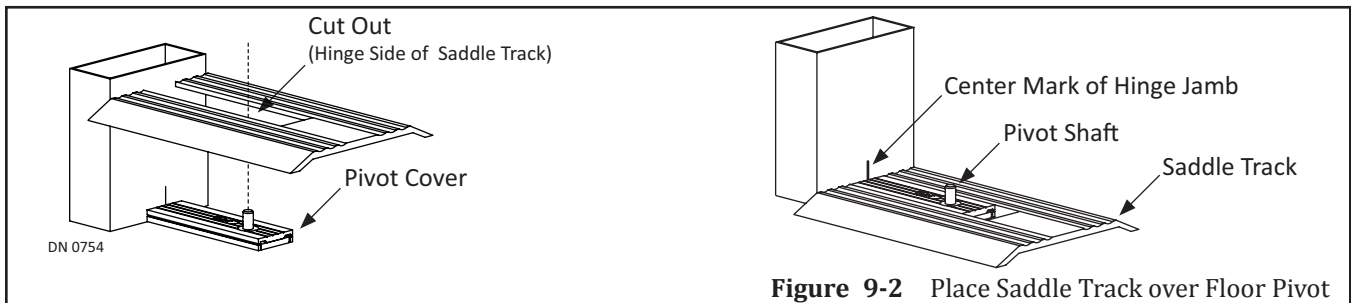

Figure 9-2 Place Saddle Track over Floor Pivot
1. Obtain the Saddle Threshold. The Pivot Side of the Saddle Threshold has a cut out for the Pivot Plate. Place the Pivot Side of the Saddle Threshold over the Floor Pivot Assembly. Please see Figure 9-2.